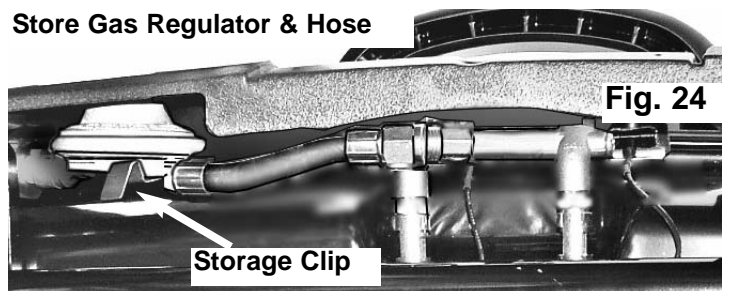

Fig. 24
- Swing the Gas Regulator up into its storage position behind the front panel of the Grill and clip it into place. **(FIG. 24)**